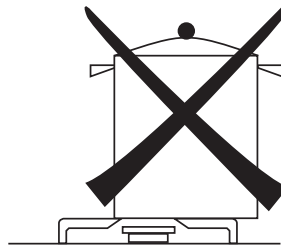

Fig.4
- Locate pan centrally over the burner so that is stable and does not overhang the appliance (see fig. 4).